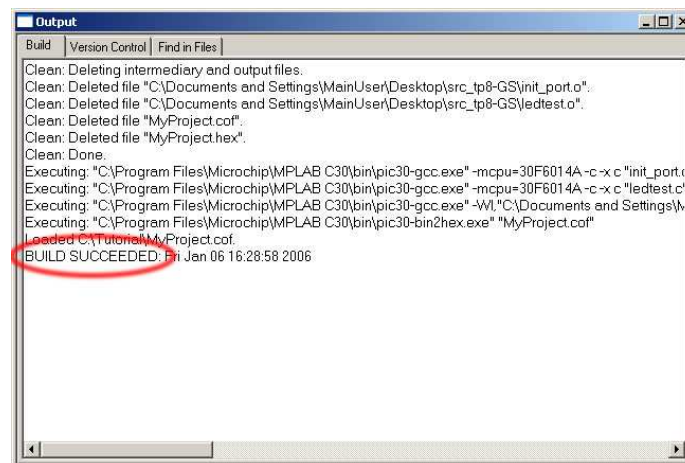

Figure 8: Build output window.
2. On your computer, please start the **Bluetooth Setup Wizard**, as shown in figure 8 left.
3. As illustrated in figure 8 right, please choose the **e-puck\_XXXX** device where XXXX is the number of your e-puck. The number is written on the metallic plate under the speaker extension. On figure 8 XXXX means 0202.